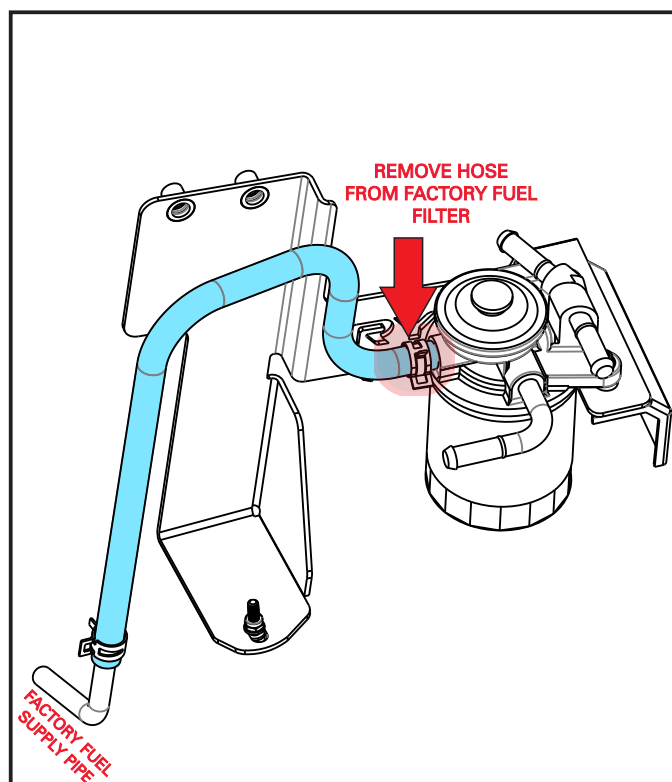

FIG. 5 FACTORY HOSE IDENTIFICATION
5. Locate the factory fuel supply hose (coloured blue in Fig. 5) at the factory fuel filter. Loosen the factory fuel hose clamp and disconnect the fuel supply hose from the factory filter.
6. Trace the other end of the fuel supply hose and disconnect it from the metal factory fuel supply pipe, as per Fig. 5. Remove the factory fuel supply hose from the vehicle and store for safe keeping. Have a rag ready to capture any diesel that may spill out of the fuel lines.